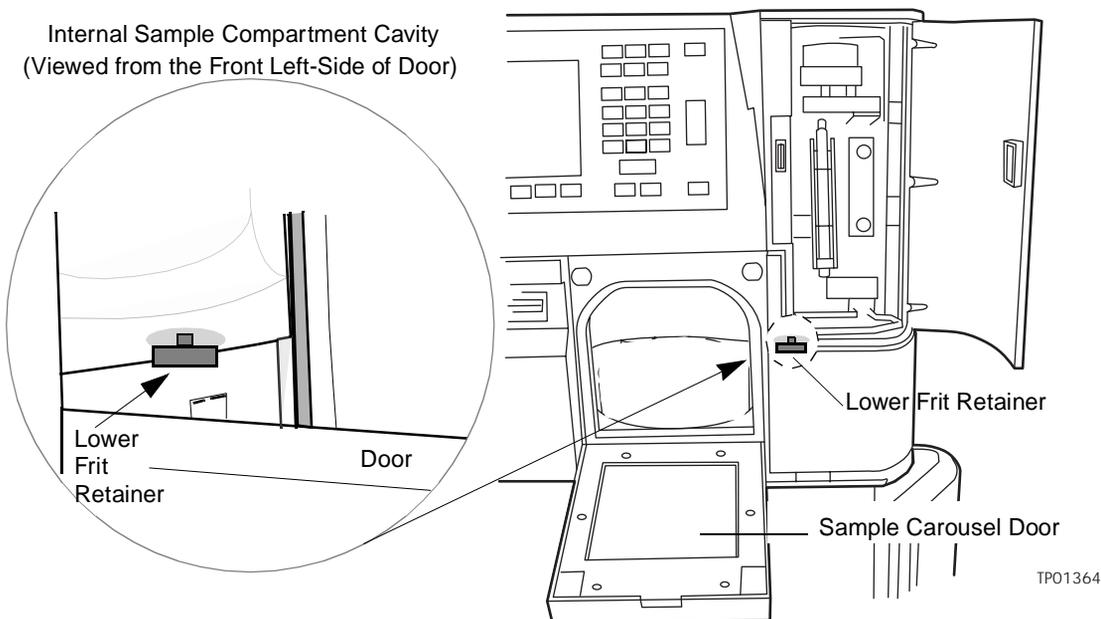

Figure 7-10 Locating the Lower Frit Retainer
1. Open the sample carousel door as shown in Figure 7-10.
4. Find the lower frit retainer, which is inside the sample compartment on the top-right side, approximately 4 inches within the cavity. Refer to Figure 7-10.